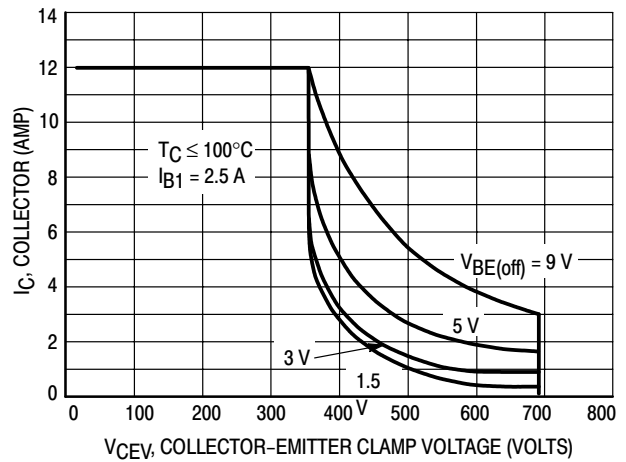
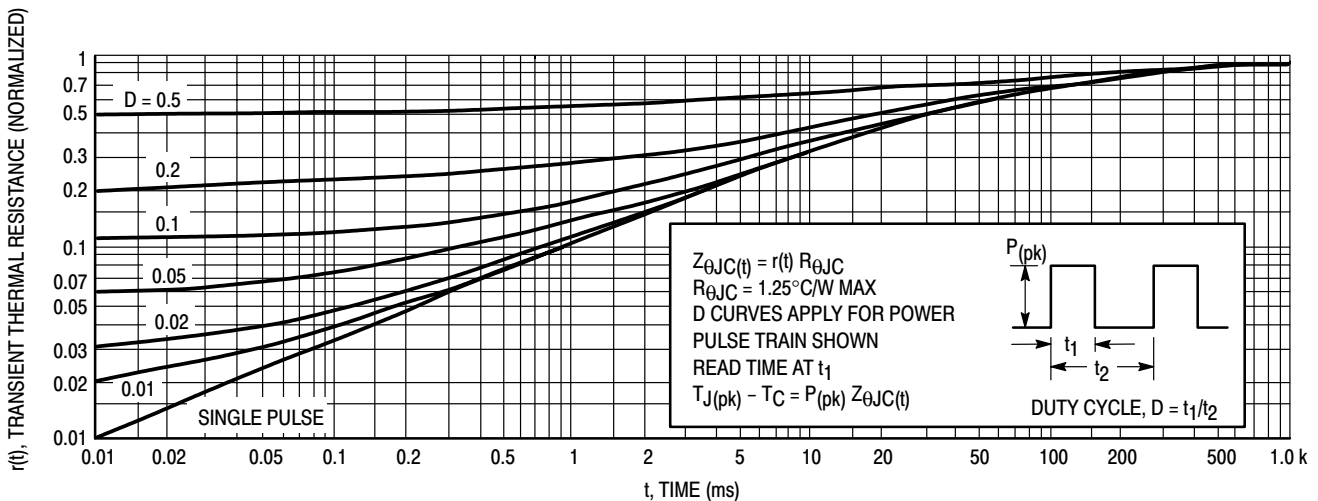

Figure 2. Reverse Bias Switching Safe Operating Area
Figure 4. Typical Thermal Response $[Z_{\theta JC}(t)]$
$T_J(\text{pk})$ may be calculated from the data in Figure 4. At high case temperatures, thermal limitations will reduce the power that can be handled to values less than the limitations imposed by second breakdown. Use of reverse biased safe operating area data (Figure 2) is discussed in the applications information section.
For inductive loads, high voltage and current must be sustained simultaneously during turn-off, in most cases, with the base to emitter junction reverse biased. Under these conditions the collector voltage must be held to a safe level at or below a specific value of collector current. This can be accomplished by several means such as active clamping, RC snubbing, load line shaping, etc. The safe level for these devices is specified as a Reverse Bias Safe Operating Area (Figure 2) which represents voltage-current conditions that can be sustained during reverse biased turn-off. This rating is verified under clamped conditions so that the device is never subjected to an avalanche mode.
8. The base drive conditions are within the specified limits shown on the Reverse Bias SOA curve (Figure 2).